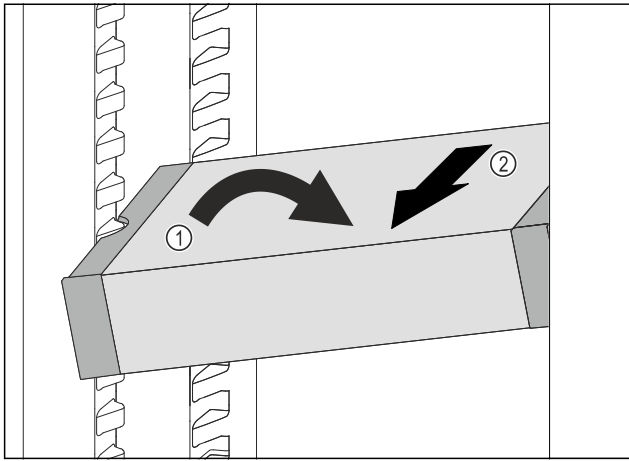

Fig. 135
- ▶ Set VarioSafe in refrigerator compartment at an angle. Fig. 135 (1)
- ▶ Take VarioSafe out to the front. Fig. 135 (2)